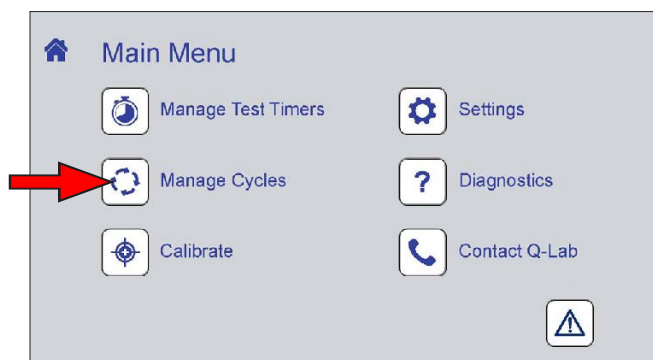

Figure 11.6.1a: Manage Cycles icon.
- On the Main Menu screen touch the Manage Cycles icon (Figure 11.6.1a) to display the Manage Cycles screen.